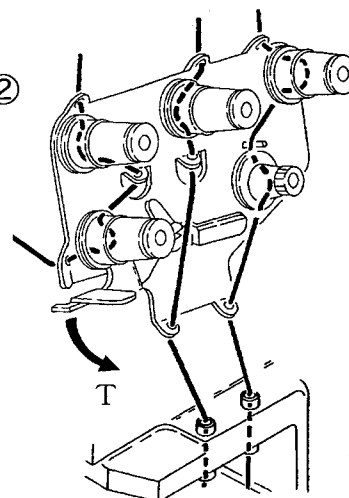

Fig. 6 TC device
- (3) Set the lever of TC device in the direction "T" . (Fig. 6)